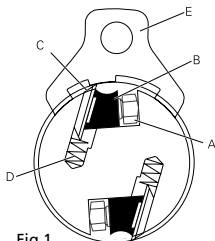

Fig.1
1. Loosen the lock bar (Fig.1-B) and blade by turning the lock screws (A) clockwise. The blades are spring loaded, and will push out when the assembly is loosened.
To obtain a blade projection of 1.5mm, place the blade setting gauge (Fig.1-E) on the cutterhead with both guides resting firmly against the blade. Loosen the assembly by turning the 7 screws (A) clockwise with an open end wrench.